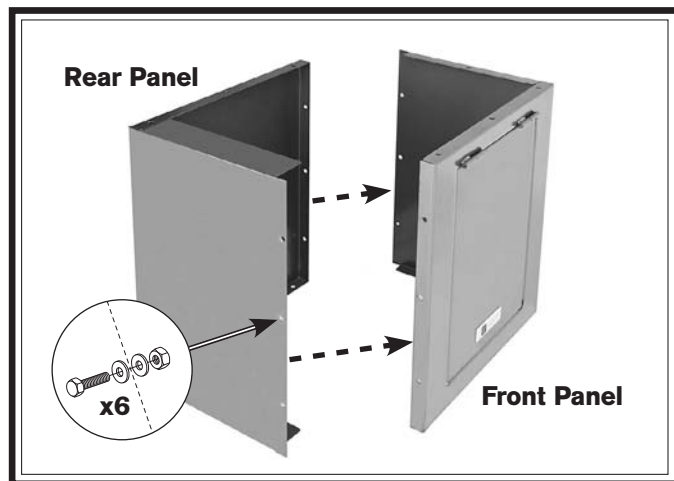

Figure 7. Front and rear panel assembly.
1. Attach the front and rear panels of the stand together as shown in **Figure 7** with (6) M8-1.25 x 15 hex bolts, (6) M8-1.25 hex nuts hex nuts, and (12) 8mm flat washers.